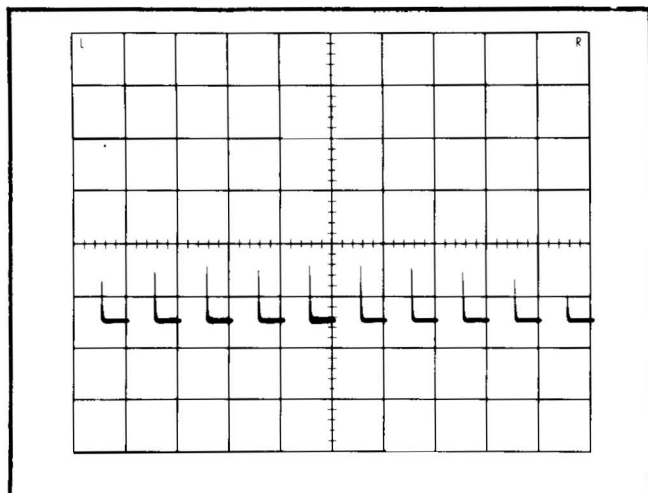

Fig. 5-6. Typical CRT display when checking Ext CRT Cathode for intensity modulation.
- Check—CRT display for noticeable intensity modulation (Fig. 5-6).